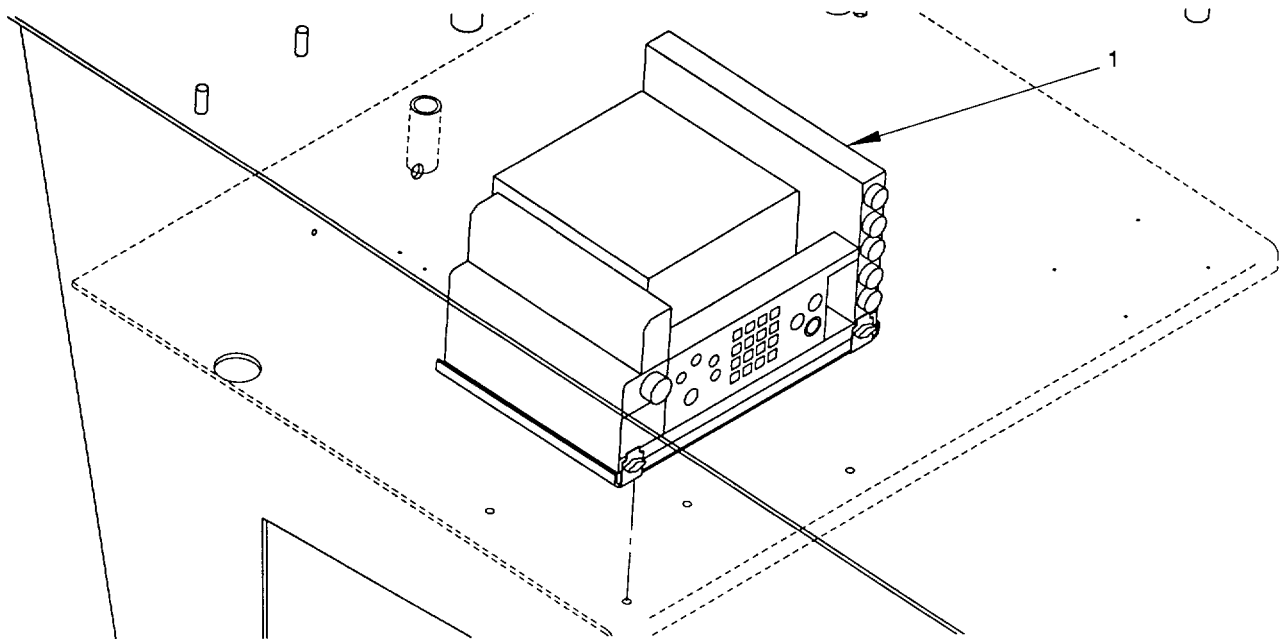

Figure 2-108. SINCGARS Radio, Remove/Install
- a. *Remove.* (figure 2-108)
- b. *Install.* (figure 2-108)